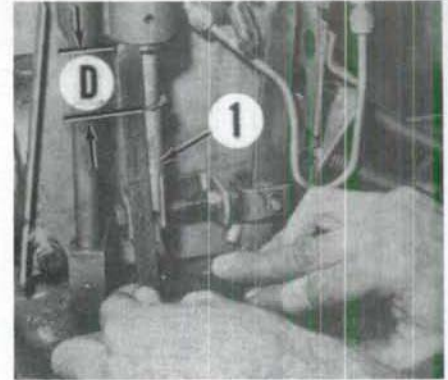

Fig. 202—Measure distance (D) between bottom (notched end) of pressure adjusting tube (1) and pressure control valve housing as shown. Refer to text.
lever to lowest setting within "PRESSURE" range of quadrant. Hold pressure control lever down securely against actuating cam, then measure distance between bottom of adjusting tube and pressure control valve housing as shown in Fig. 202. Turn adjusting tube as required until distance (D) is 31.75-34.93 mm (1-1/4 to 1-3/8 inches).